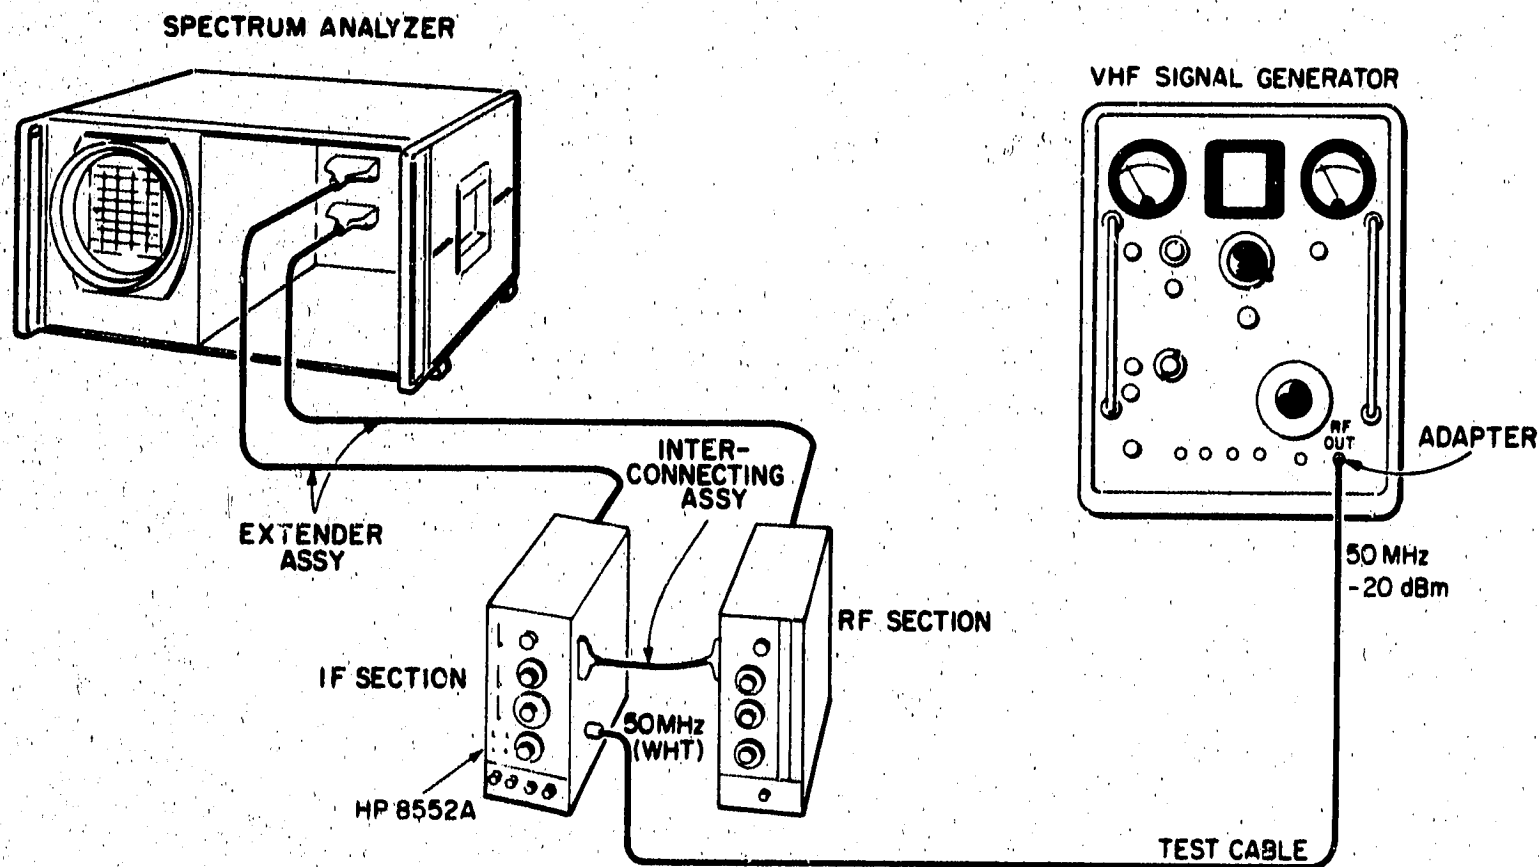

Figure 5-17. 44 MHz Rejection Adjustment Test Setup
1. Connect the test setup shown in Figure 5-17 and make the following control settings: